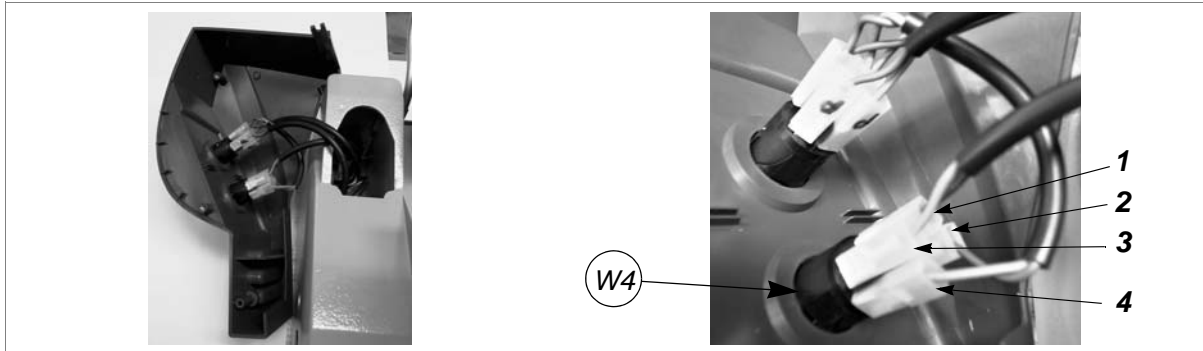

Fig. 33
- 10) Remove the connectors (1, 2, 3, 4), paying attention to their positions (fig. 33, page 25).